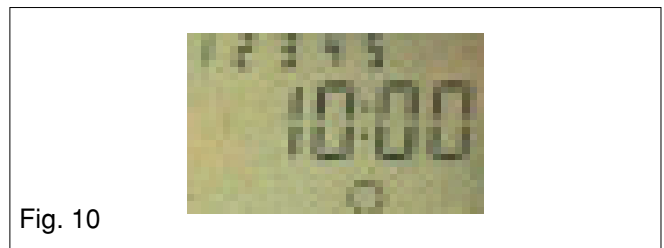

Fig. 10
- Press the Select button until the (off) symbol is shown (see fig. 10).